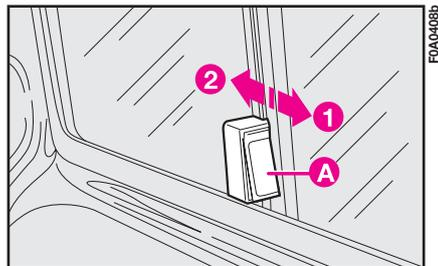

fig. 102
- 1) Keep pressed button **A**-fig. 102 to release the sliding window.
- 2) Push the window in the direction of the arrow (1), to open as required.
- 3) To close, pull the sliding window in the direction of the arrow (2) until you hear it click.